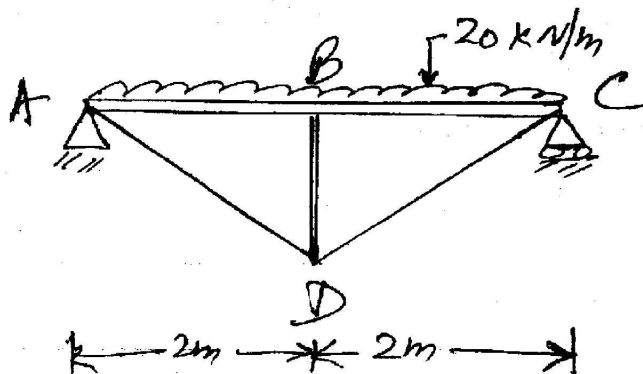

Fig. 2
- 4 A trussed timber beam, 4 m long, 120 mm wide and 250 mm deep has a central cast iron strut with an area of 2500 mm^2 and a length of 625 mm. The steel tie rods are 28 mm in diameter. The beam carries a uniformly distributed load of 20 kN/m . Calculate the pull in the tie rods, the thrust in the strut and maximum stress in the beam section. Consider modulus of elasticity for timber, cast iron and steel as $1.2 \times 10^4 \text{ N/mm}^2$, $10 \times 10^4 \text{ N/mm}^2$ and $20 \times 10^4 \text{ N/mm}^2$ respectively. (**fig. 2**).